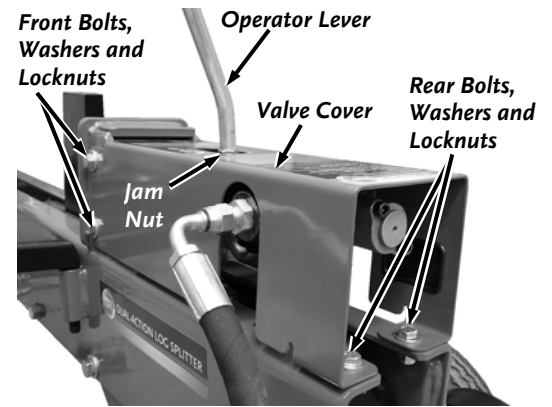

Figure 33
2. Remove the front hardware from the Valve Cover using Two 9/16" Wrenches (**Figure 33**).